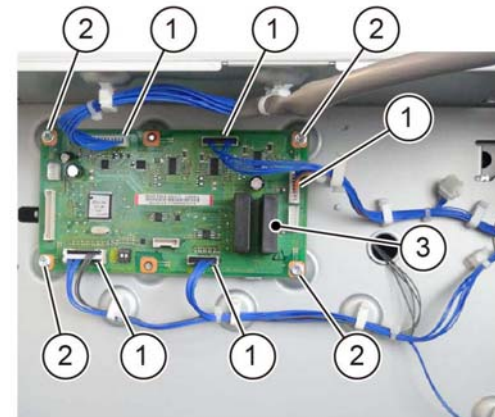

Figure 3 1TM PWB removal
2. Remove the 1TM PWB, Figure 3:
- a. Disconnect five connectors (1).
- b. Remove four screws (2).
- c. Remove the 1TM PWB (3).